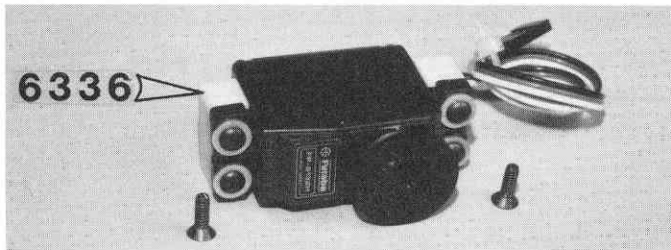

Fig. 141
□ **Fig. 141** In Bag #6-6, take out 2 of the #6336 plastic servo mounts. You'll have to drill the mounts for your particular servos. If you have S32 servos, line up your servo with the mounts, so that there will be about 1/16" (1.6mm) clearance between the servo and the chassis plate and mark the hole locations on the mounts. Drill two #43 (2.3mm) holes in each mount on the side away from the chassis mounting hole, which will be on the bottom of the mount. You'll notice that the chassis has 2 sets of servo mounting holes. A short set and a long set. With 2 different sets and by rotating the servo mounts 90 deg, you will be able to mount most servos. Put the rubber grommets on the servo and attach the servo to the mounts with 4 button-head Allen screws and washers, as shown.